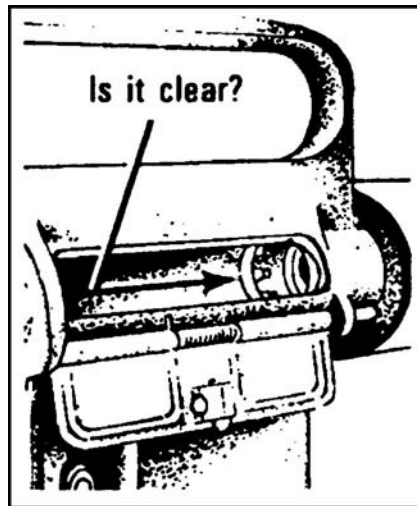

Figure 071-311-2027-2. Inspecting the chamber
- f. Insert the magazine, pushing it upward until the magazine catch engages and holds the magazine (figure 071-311-2027-3).